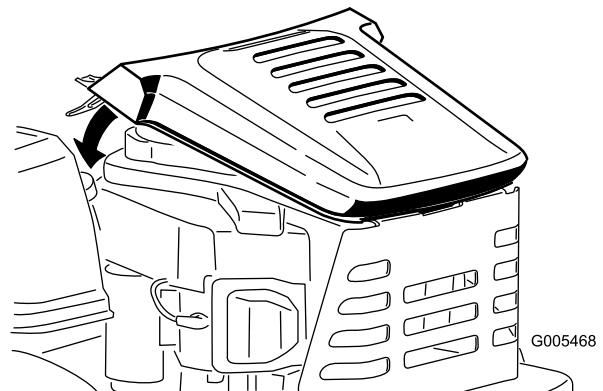

Figure 6
- Install the engine cover assembly to the rear engine guard as shown in Figure 6. Make sure the tab in the rear of the cover mates with the slot in the guard and pivot the cover forward and down.
2. To install the engine cover (Figure 6) make sure the tab in the rear of the cover mates with the slot in the guard and pivot the cover forward and down.